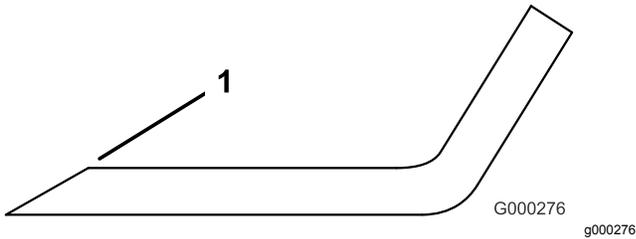

Figure 116
3. Examine the cutting edges of all of the blades and sharpen the cutting edges if they are dull or nicked (Figure 116).
Note: Sharpen only the top of the cutting edge and maintain the original cutting angle to ensure sharpness (Figure 116). The blade remains balanced if the same amount of metal is removed from both cutting edges.